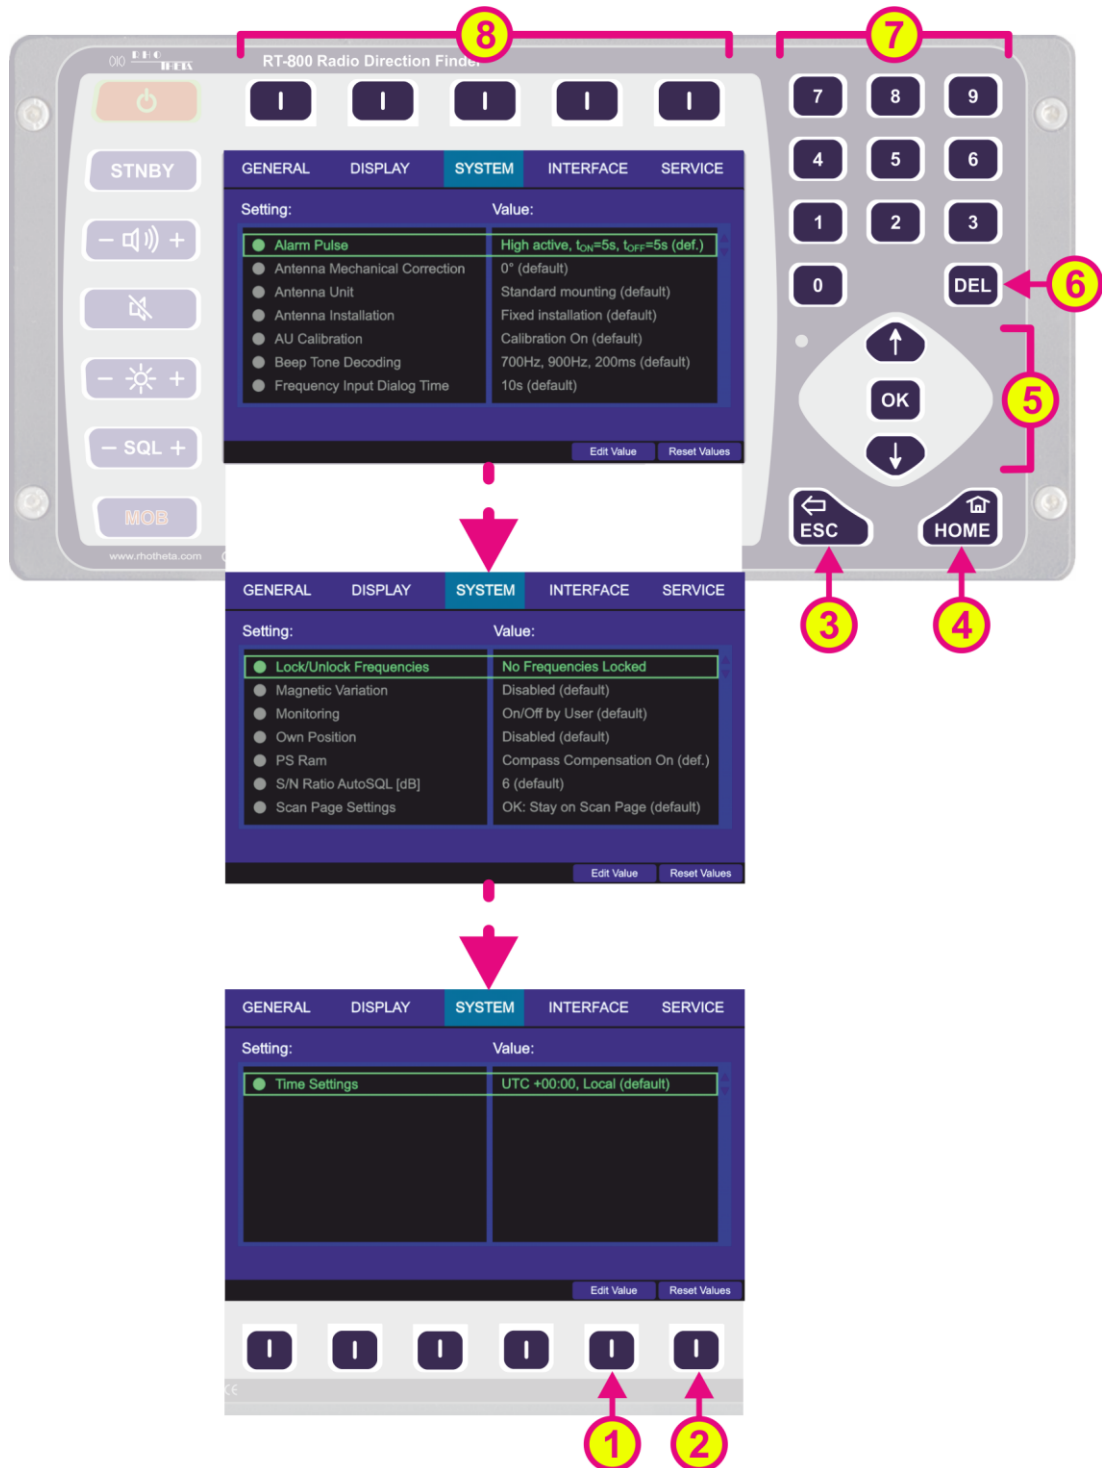
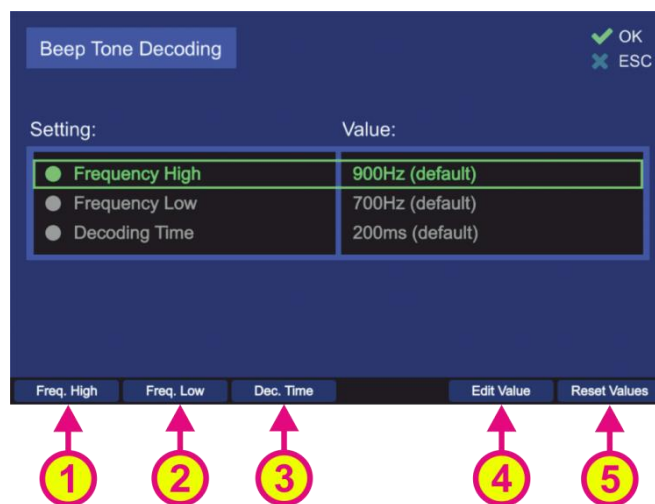

Fig. 106 Setup page. System settings
Fig. 116 Beep tone decoding settings
- By pressing the “OK” button or the hotkey “Edit Value” (s. Fig. 106), while the setting “Antenna Unit” is marked by the green frame, the following dialog is opened.
- By pressing the “OK” button or the hotkey “Edit Value” (s. Fig. 106), while the setting “Antenna Mechanical Correction” is marked by the green frame, the following dialog is opened.
- By pressing the “OK button or the hotkey “Edit Value” (s. Fig. 106), while the setting “Antenna Installation” is marked by the green frame, the following dialog is opened.
- By pressing the “OK button or hotkey “Edit Value” (s. Fig. 106), while the setting “AU Calibration” is marked by the green frame, the following dialog is opened.
The user can define characteristics of beep tone decoding by pressing “OK” or the hotkey “Edit Value” (s. Fig. 106), while the setting “Beep Tone Decoding” is marked by the green frame. The following dialog opens (s. Fig. 116).
All values can be set to the default values, using the hotkey “Reset Values” (s. Fig. 116, position 5).
High” or the “Edit Value” hotkey (s. Fig. 116, positions 1 and 4), both of these hotkeys will open the same dialog.
**Frequency Low** defines the upper frequency for the beep tone decoding. The default value for this setting is 700 Hz. There are two ways to change this setting: either using the “Freq. Low” or the “Edit Value” hotkey (s. Fig. 116, positions 2 and 4), both of these hotkeys will open the same dialog.
The default value for this setting is 200 ms. There are two ways to change this setting: either using the “Dec. Time” or the “Edit Value” hotkey (s. Fig. 116, positions 3 and 4), both of these hotkeys will open the same dialog.